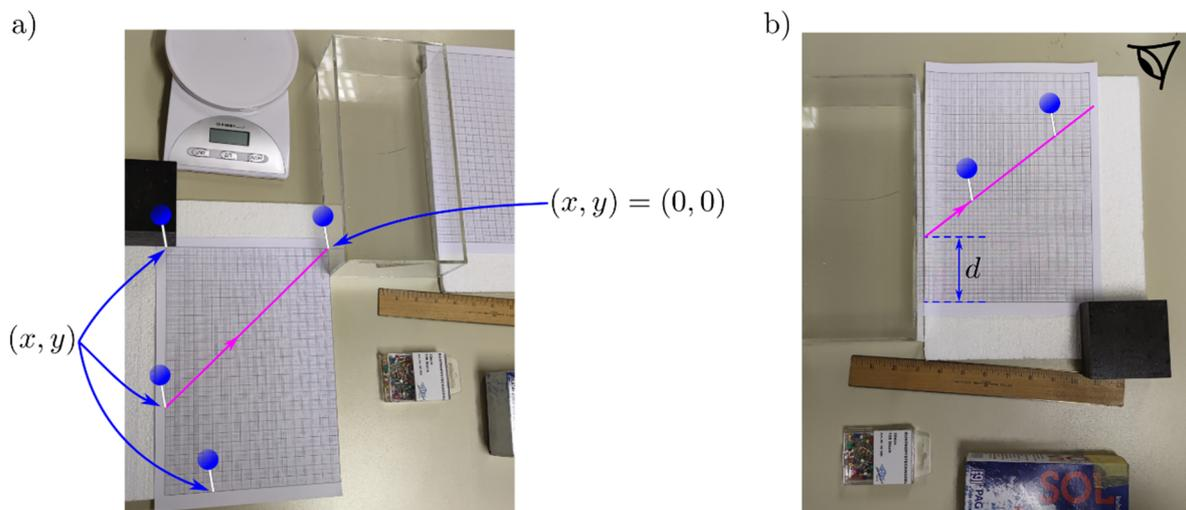

Figure 3.6. a) Sketch of the position of the pins for the incoming light ray. b) Sketch of the position of pins for the outgoing light ray.
In the first column are predetermined angles α for which we want to determine the distances d . We set the beam path by sticking two pins into the graphing paper placed on the Styrofoam. One pin is placed in the corner of the graphing paper next to the tub containing the liquid (see Figure 3.6. a). This pin is given the coordinates $(x, y) = (0,0)$. The other pin is placed on the graphing paper on given (x, y) coordinates. We can trace light direction by looking from the side, when pins overlap in your view.
You can follow the path of the imagined light beam exiting the tub by looking from the side and placing two pins on the second graphing paper (see Figure 3.6. b). Pay attention to the placement and the alignment of the graphing paper to make sure you determine the distances d correctly. To maximize the accuracy of the measurement for an individual light beam, do not place the two pins too close to each other. **Plan your experimental setup as to not move graphing papers while tracing various rays, as it would incur additional errors in measurements.**
3.2.3. Fill less than half of the tub with demineralized water and place the pins on the graphing paper as described. After placing (all) the pins on the second graphing paper, use a ruler to draw lines connecting the pins for each of the rays, and extend them to the edge of the graphing paper. This will allow you to determine the distance d for each of the rays and enter it in Table 3.3 in the column 'd(cm) 0%' on the Answer Sheet (see Figure 3.6. b). (9 p)